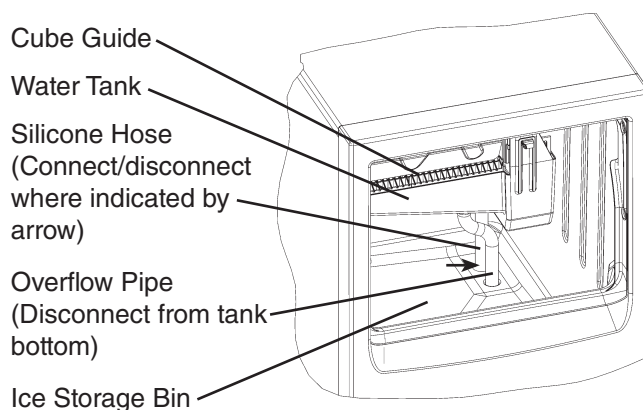

Fig. 7
- 10) Disconnect the silicone hose to drain the water. See Fig. 7.
- 4) Disconnect the silicone hose to drain the water. See Fig. 7. Reconnect the silicone hose back in its correct position after all of the water has drained.
- 3) Open the door. Disconnect the silicone hose to drain the water. See Fig. 7.